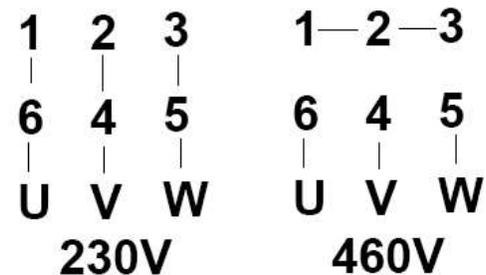

Figure 9-3: Coolant pump wiring
3. Remove coolant pump motor junction box cover, and change incoming leads for coolant pump, based on diagram shown in Figure 9-3. Reinstall cover.